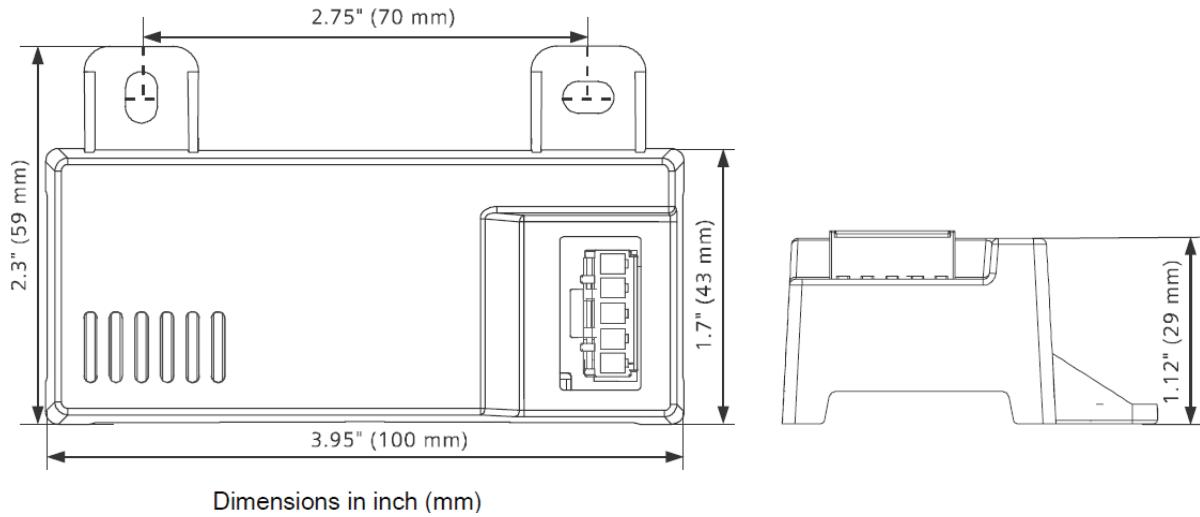
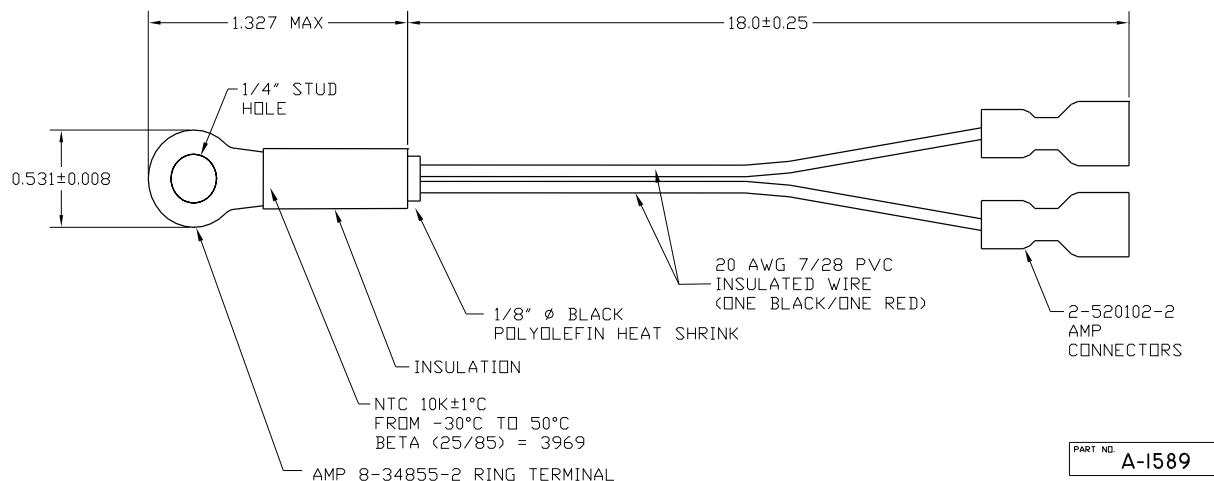
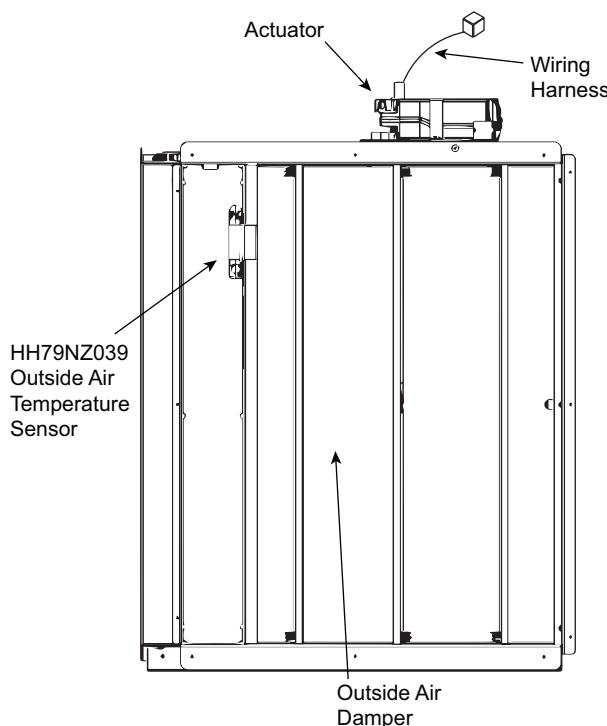

Fig. 60 — HH57LW001 Dimensional, Connection and Switching Information
Fig. 61 — HH79NZ039 Dry Bulb and Mixed Air Sensor Wiring
Fig. 62 — EconomizerONE Component Locations (CRECOMZR108A00 Shown)
When using the HH57LW001 enthalpy sensor (see Fig. 60) for outside air changeover, the existing HH79NZ039 dry bulb sensor (see Fig. 61) must be removed. The enthalpy sensor will be mounted in the same location as the dry bulb sensor (see Fig. 62). When the enthalpy sensor's OA (Outside Air) temperature, enthalpy, and dew point are below their respective setpoints, the outside air can be used for free cooling. When any of these are above the setpoint, free cooling will not be available. Enthalpy setpoints are configurable and create an enthalpy boundary according to the user's input. For additional details, see Fig. 63-64 and Table 24.
The optional enthalpy control sensor (P/N: HH57LW001) communicates with the POL224 economizer controller using the 5-wire harness, 48TC005213. The HH57LW001 sensor can be used as a single outside air enthalpy, a differential return enthalpy, or a differential return temperature sensor. Refer to the base unit control wiring diagrams found earlier in this book to wire the HH57LW001 enthalpy sensor for each option. Use Fig. 60 and Table 26 on page 48 to locate the wiring terminals for each enthalpy control sensor.
Economizers are shipped standard with an HH79NZ039 outside air dry bulb sensor (see Fig. 61). System default setting (high temp limit) is 63°F (17°C) and has a range of 48°F to 80°F (9°C to 27°C). Sensor is factory installed on economizer.
If installing the optional HH57LW001 enthalpy sensor, the HH79NZ039 dry bulb outside air sensor must first be removed. Wire sensor to harness 48TC005213 and the (5) wires from the harness to the EconomizerONE harness in the return air chamber. Harness 48TC005213 has a 5-pin plug that connects directly to the HH57LW001 enthalpy sensor. Refer to the base unit control wiring diagrams earlier in this book for wiring connections. Refer to Fig. 60 and Table 26.